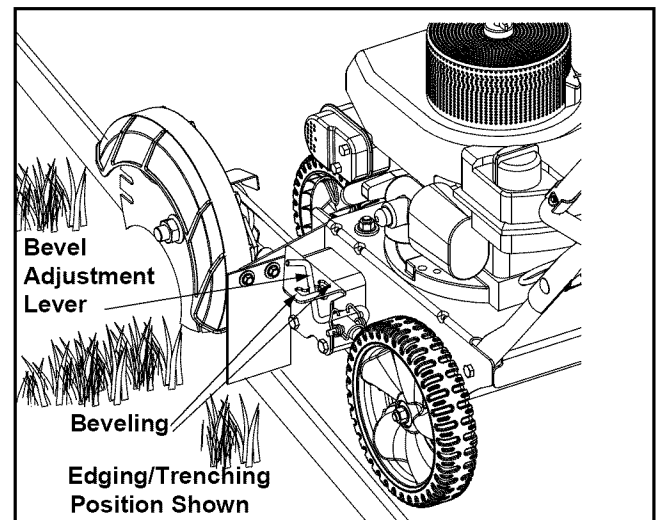
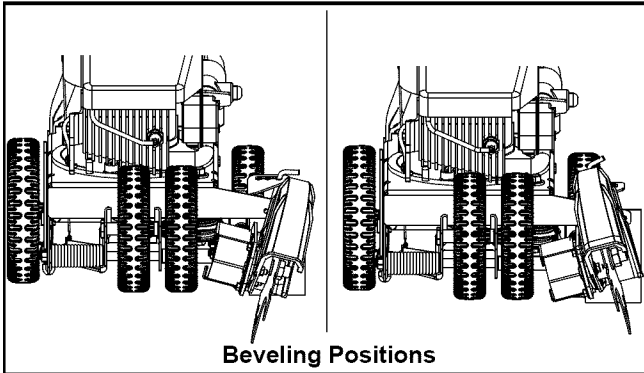
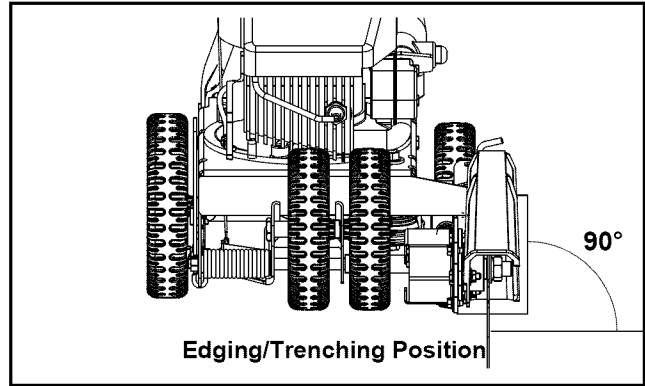

Figure 8
Figure 9
Figure 14
The angle of the edger blade can be adjusted by placing the bevel adjustment lever in one of three positions for edging/trenching or beveled edging. See Figure 8.
In order to achieve a bevelled edge, set the bevel adjustment lever (refer to Figure 8) in the first (left hand) or third (right hand) notch to place the edger blade in position for beveling. See Figure 9.
- Set the bevel adjustment lever (refer to Figure 8) in the center notch to place the edger blade in a 90° position (see Figure 14) and place the blade depth control lever in the lowest position.